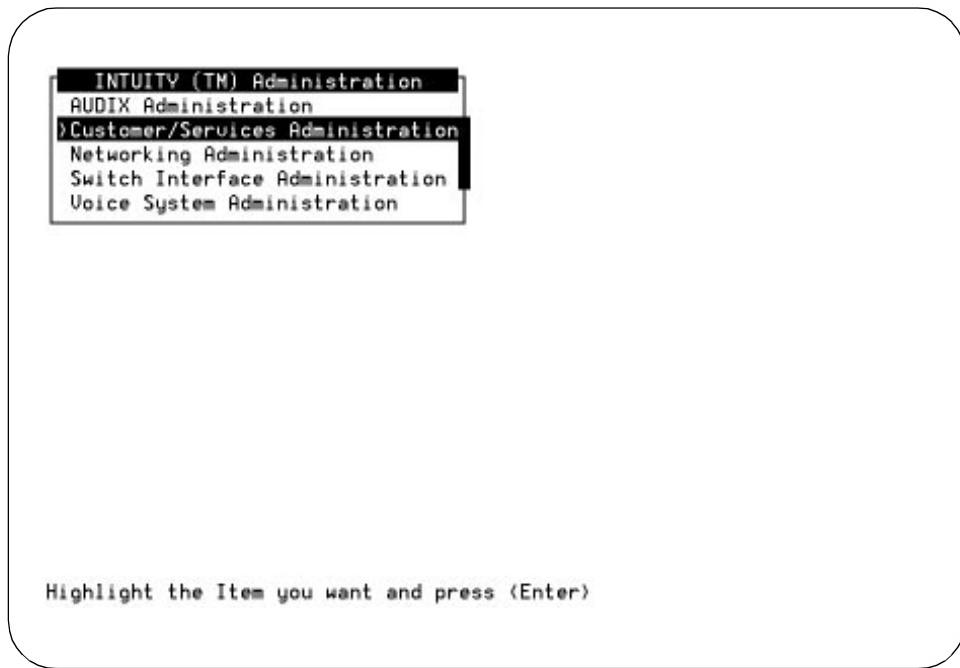

Figure 6-1. INTUITY Main Menu
You see the INTUITY Administration menu as shown in Figure 6-1.
7. Press **[CANCEL] (F6)** until you see the INTUITY Administration menu as shown in the Figure 6-1.
1. Starting at the INTUITY Administration menu, shown in Figure 6-1., select the following series of menu options: